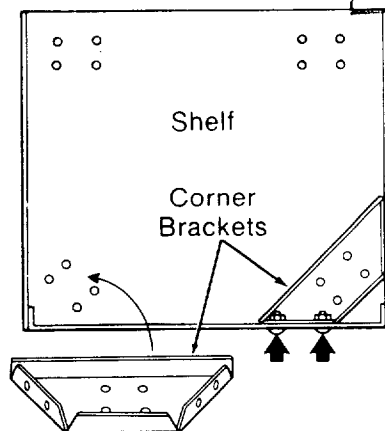

Fig. 15
1. Turn the *shelf* upside down on the floor. The wide edge should point down, and the three narrow edges should point up. (Figure 15)
2. Put a *corner bracket* in the front corners of the *shelf*. (Figure 15)